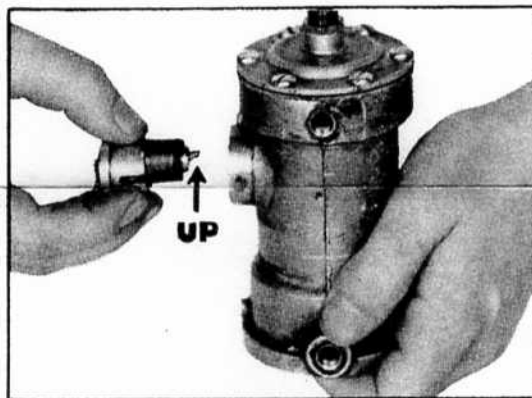

FIGURE 3
7. Trip actuator arm of switch upward (Fig. 3).